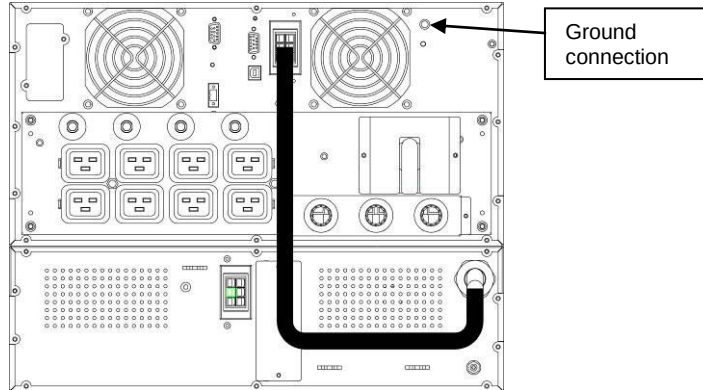

Figure 11: XANTO S 10000 with BP, Rack Installation (rear view)
1. Connect each battery module to the ground connection (screw on the rear side) using an additional cable (at least AWG 8) at the ground potential (see Figure 11 bottom right).
2. Connect all plug connections between the battery modules and the UPS system (see Figure 11). Up to four batteries can be connected to the UPS system.